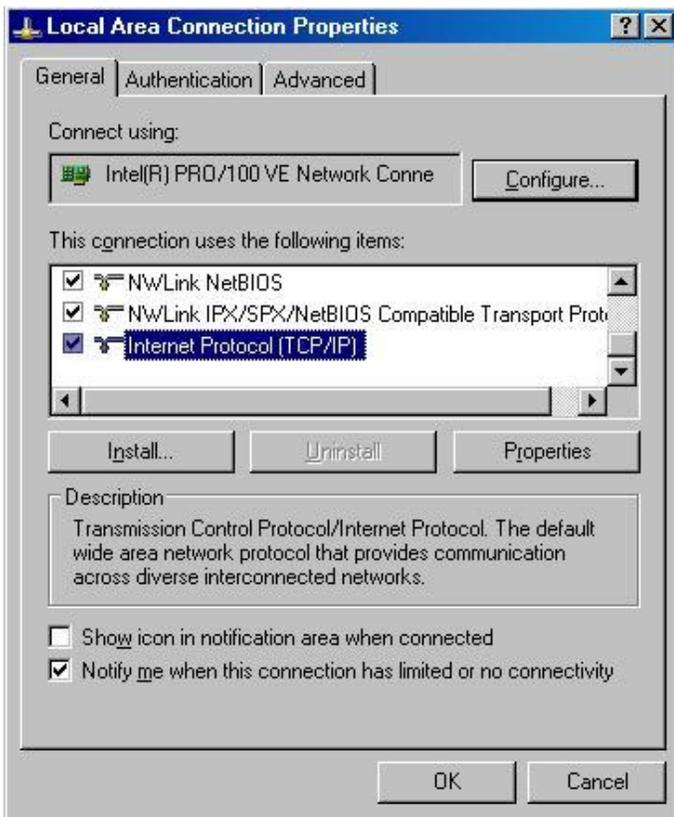
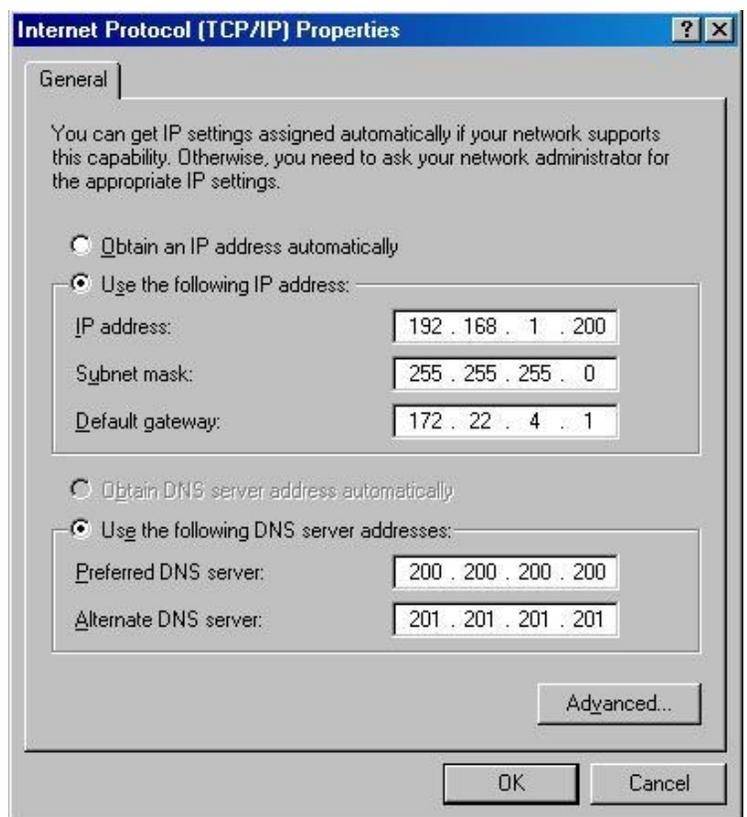

Figure 1. Local Area Connections
Figure 2. TCP/IP Properties
On your computer open the Network Connections. Double click on the LAN icon and then click on Properties. You should see a window similar to figure 1. Highlight the Internet Protocol(TCP/IP) and click on Properties and a window similar to figure 2 should show. There are slight differences in these two windows depending on which Windows operating system you are using.
**CAUTION:** Remember your settings in figure 2. Return to these settings when you are finished using the Spyder Configuration Tool. If you want the Spyder(s) connected to your local network permanently please contact your IT department for assistance with the IP Address configuration.
- Select "Use the following IP Address" in figure 2.
- Type in the IP Address and Subnet Mask as shown in figure 2 above.
- Do not change Default Gateway or DNS server setup in figure 2.
- Click "OK" on both the figure 2 and figure 1 windows.